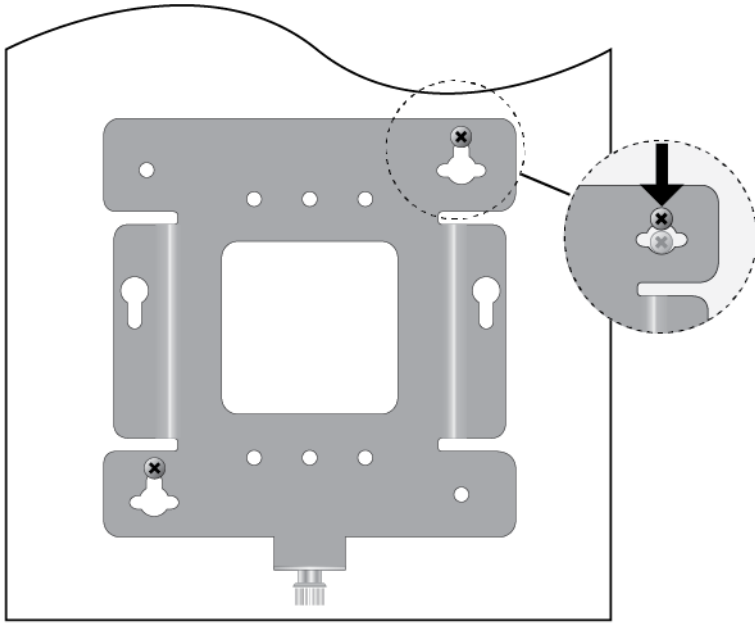

Figure 23. Installing the Wall Mounting Bracket On the Screws
6. Insert the openings of the bracket key-hole slots under the two screw heads and slide the bracket into the narrow end of the key-hole slot openings. Refer to Figure 23 on page 56.